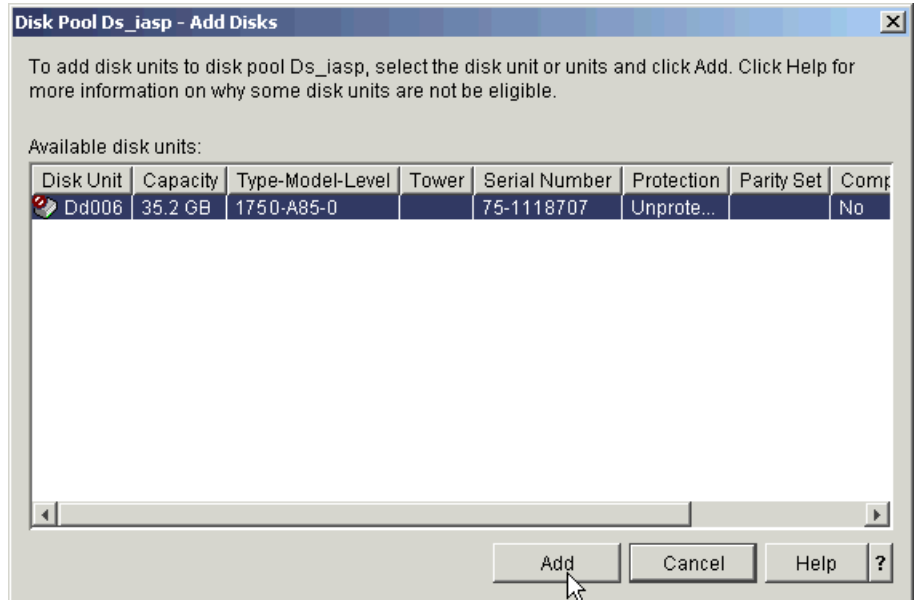

Figure 18-13 Choose the disks to add to the Disk Pool
- A list of non-configured units similar to that shown in Figure 18-13 appears. Highlight the disks you want to add to the disk pool and click **Add**.